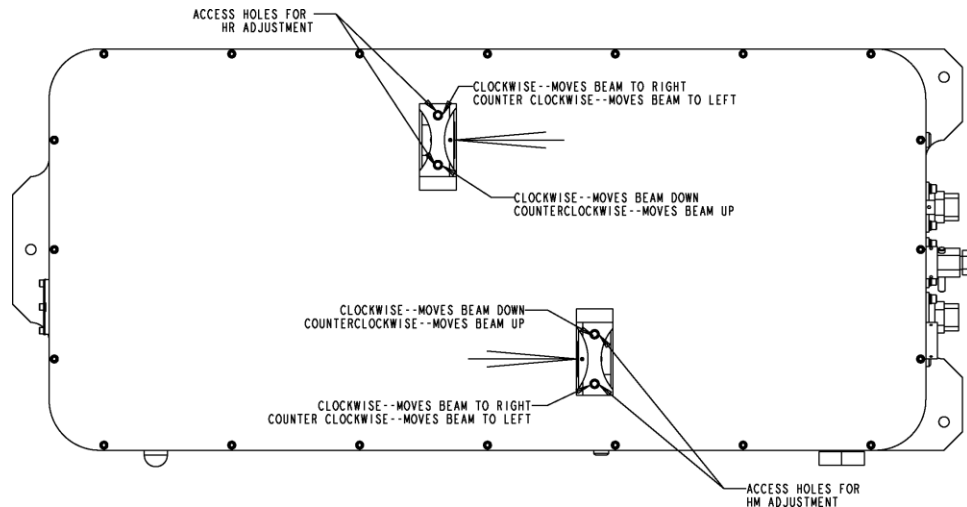

Figure 20. Illustration of accessible holes for HR and HM cavity mirror adjustment
d. The screws for the adjustments of the vertical tilt angle and the horizontal tilt angle are illustrated in Figure 20 above.